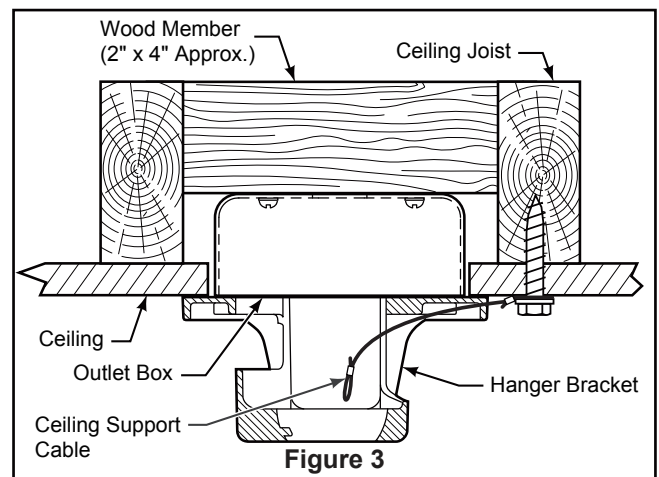

Figure 3
1. Securely attach the hanger bracket to the outlet box using the outlet box screws and washers supplied with the outlet box. (Figure 3)
2. Drill a 1/4" pilot hole into the building structure to prevent splitting or cracking with installation of the lag bolt. Using the 3/8" x 2" lag bolt and flat washer, attach safety cable to ceiling joist or wood structural member. The lag bolt will pass through the flat washer, safety cable loop, and into the building structure. (Figure 3)
NOTE: Ceiling support cable cannot be secured to outlet box only, it must be directly secured to ceiling joist or structural member using the 3/8" x 2" lag bolt and flat washer. (Figure 3)